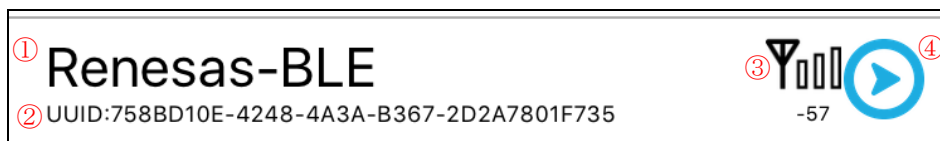

Figure 6-14 BLE device information in short format
Initially, the list of Advertising BLE devices found in surrounding area is shown as short format include only four parameters; (1) Device Name, (2) Device UUID, (3) RSSI and (4) connection button shown as Figure 6-14. In this format, the detail information of BLE device is listed in Table 6-3.